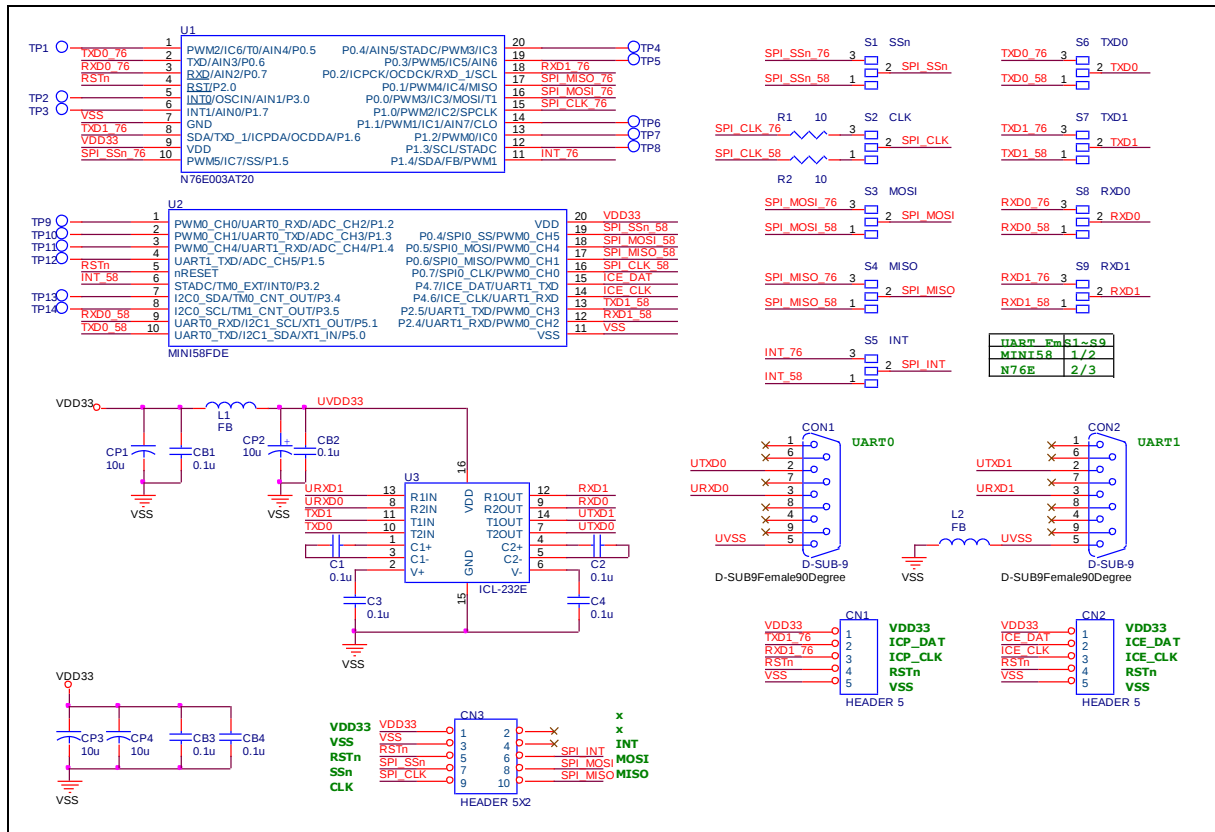

Figure 3-11 NuDesign-SPI2UART(B) Controller Circuit
3.11 NuDesign-SPI2UART(B) Controller Circuit
Figure 3-11 shows the NuDesign-SPI2UART(B) Controller circuit.